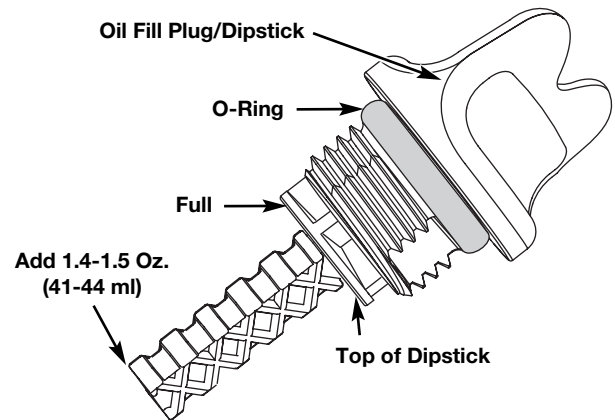

Fig. 19
5. Remove the oil fill plug/dipstick and check the oil level. Oil should be up to the top of the dipstick (Fig. 19).